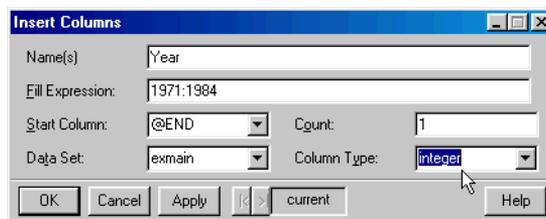

Figure 3.27: *The Insert Columns dialog.*
3. Type **Year** in the **Name(s)** text box and **1971:1984** in the **Fill Expression** text box. Select **integer** as the **Column Type** and click **OK**. (See Figure 3.27.)